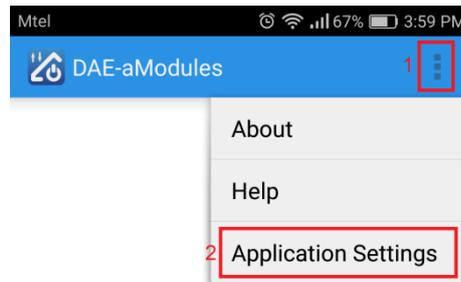

Figure 16.1. DAE-aModules configuration
1. Go to upper right corner and click the button (**Figure 16.1**);